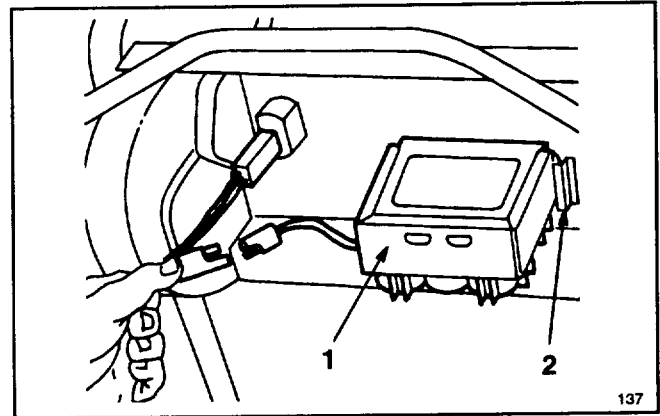

Figure 7
1. Refer to Charging Battery, page 11. Slide battery, decal side facing operator's position, between mounting tabs on back of control panel (Fig. 7).